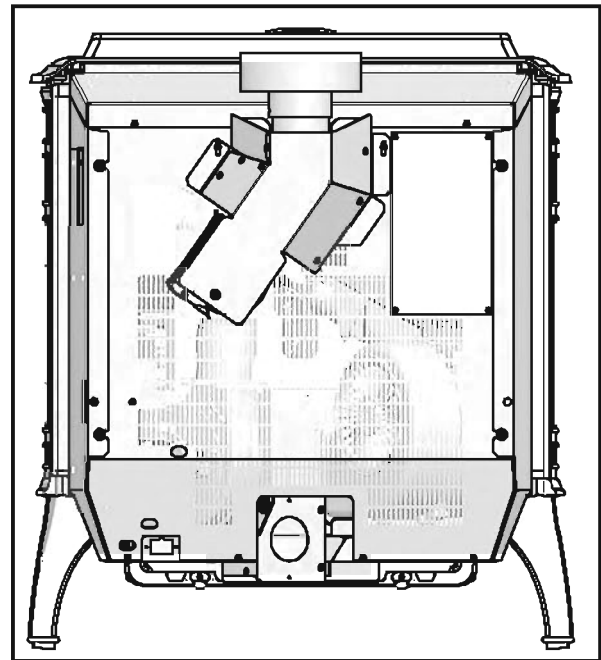

Figure 21.2
3. Align slot on left of adapter with hole in the back of the appliance and secure with screw. You may drill out the hole using #26 drill bit provided but only if needed. **Figure 21.2.**
7. To clean top vent adapter, open clean-out cover and remove any debris build-up. **Figure 21.2.**